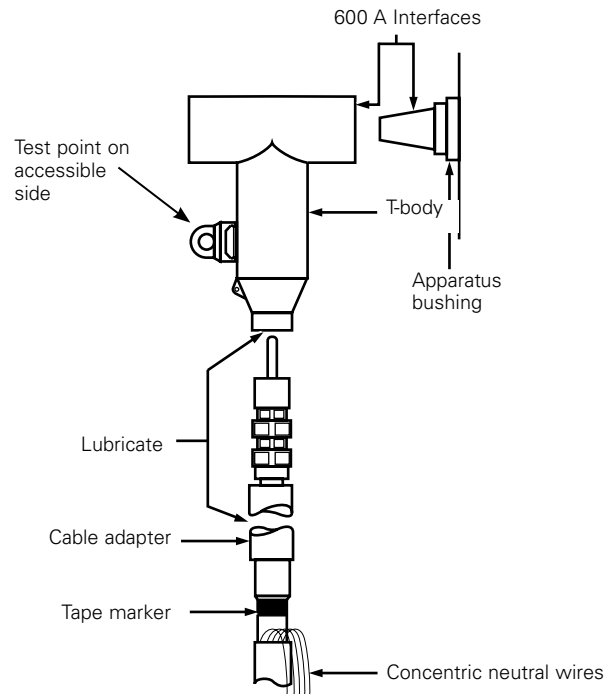

Figure 24. Line illustration of Deadbreak T-body installation.
- Without moving the cable adapter, slide T-body onto cable adapter until compression connector eye is centered in 600 A interfaces. (Refer to Figure 24.)